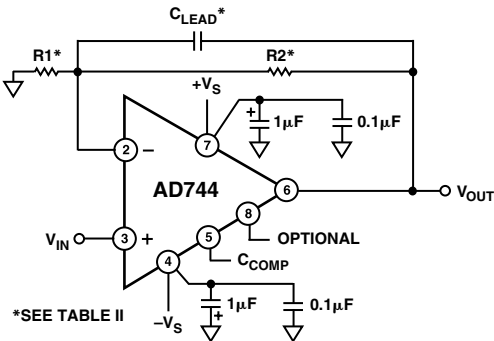

Figure 31. AD744 Connected as a Voltage Follower Operating at Gains of 2 or Greater
Figures 31 and 32 show the AD744 as a voltage follower with gain and as an inverting amplifier. In these cases, external compensation is not necessary for stable operation. However, compensation may be applied to drive capacitive loads above 50 pF. Table II gives recommended  $C_{COMP}$  values, along with expected slew rates and bandwidths for a variety of load conditions and gains for the circuits in Figures 31 and 32.
**Table II. Recommended Values of  $C_{COMP}$  vs. Various Load Conditions for the Circuits of Figures 31 and 32.**